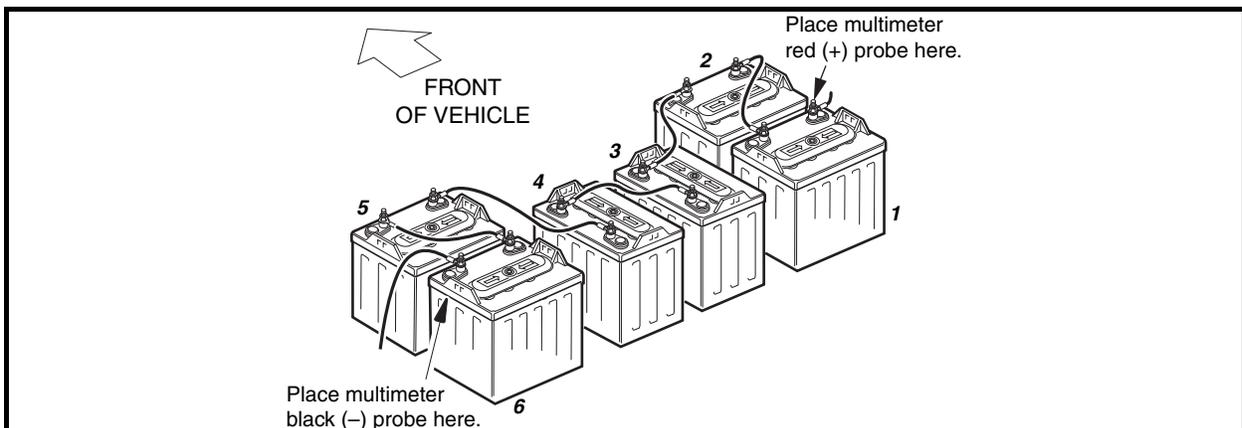

Figure 3-13 Turf 1 and Carryall 1 Battery Voltage Test
- 4.2. **Turf 1 and Carryall 1:** With a multimeter set to 200 volts DC, measure the voltage of the battery pack between the positive (+) post of battery no. 1 and the negative (-) post of battery no. 6 (**Figure 3-13, Page 3-17**).